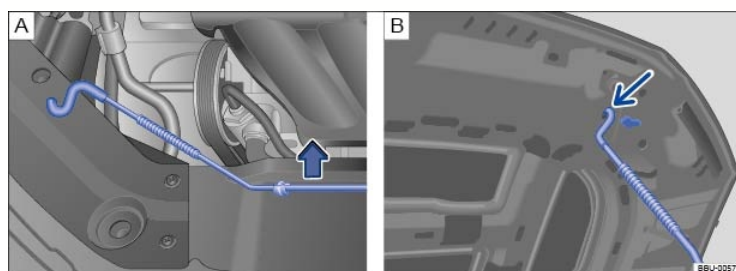

Fig. 158 : In the engine compartment: Bracket for hood support. : Hood propped open.
- Take out the hood support and clamp it in place in its bracket → Fig. 158 .